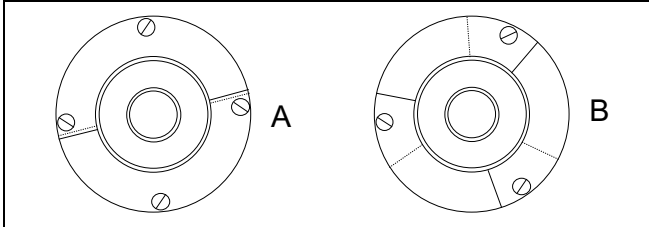

FIGURE 15 : Ceiling Rings
The ceiling ring is to meet fire stop requirements. Accessory Ceiling Ring (P/N 7660-2841) may be used, (See Figure 15) or the manufactured home manufacturer or the installer may use other approved methods to stop fire.
If required, three (3) sections of Accessory Ring may be used as shown in Figure 15 to provide closer clearance around roof jack.